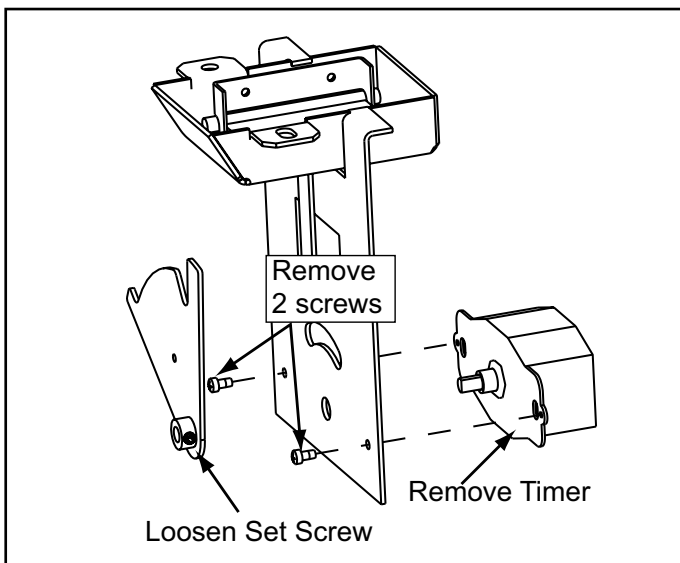

Figure 36.5
1. Loosen set screw on timer, remove 2 screws and remove timer. See Figure 36.5.